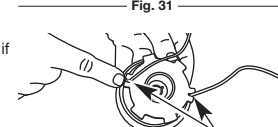

Fig. 32
- Insert the ends of the line into the two holding slots (Fig. 32).